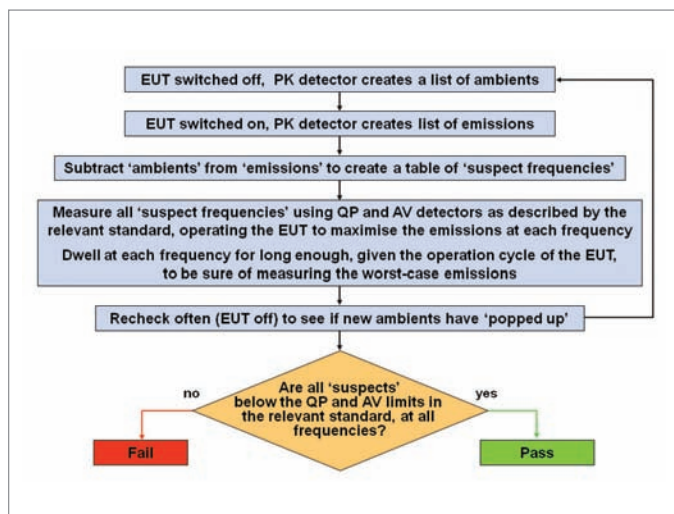

Figure 1: A typical compliance measurement procedure to deal with ambients, for *each* mains conductor
The test site requirements for conducted emissions are very relaxed compared with the problems of radiated testing, and a simple arrangement of metal plates can be sufficient if the ambient noise of the site is low enough in the frequency range to be measured. Ambient noises can be separated out from the emissions of the EUT by first making a measurement with the EUT switched off – using the peak (PK) detector to save time – then again with the EUT switched on to create a list of 'suspect frequencies' that are known to be caused by the EUT and not by the ambients. Where it is thought that an EUT emission might be lying on top of an ambient, check the reading by "zooming in" the frequency span of the measuring instrument and switching the EUT off and on again. (Figure 1)